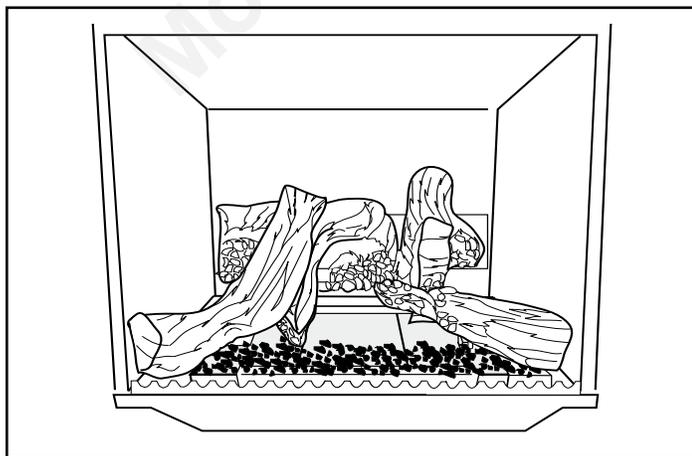

Figure 11 - Stardance logs in place.
5. Loosely sprinkle the lava rocks directly on top of the burner just behind decorative grate. (Figure 11) Do not place lava rocks toward back of burner. The lava rock is shipped inside the bag assembly.